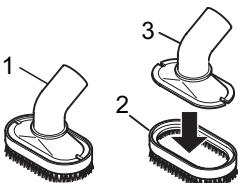

Fig. 6
- Furniture brush (Fig. 6/1)**
- Upholstery nozzle (Fig. 6/3)**
By simply removing the brush attachment (Fig. 6/2) you can make an upholstery brush (Fig. 6/3) from the 2-in-1 combi-nozzle. Use this to clean soft, scratch-resistant surfaces (e.g. upholstered furniture).